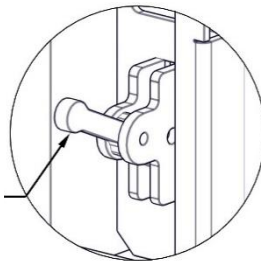

Figure 32
- 4- Make sure that the « crane lever » (see Figure 32) is in the « FRSM-20K » position.
- 4- Make sure that the « crane selector » (see Figure 32) is in the « FRSM-20K » position.
- 2- Make sure that the « Crane selector » (see Figure 32) is in the « FRSM-20K » position.